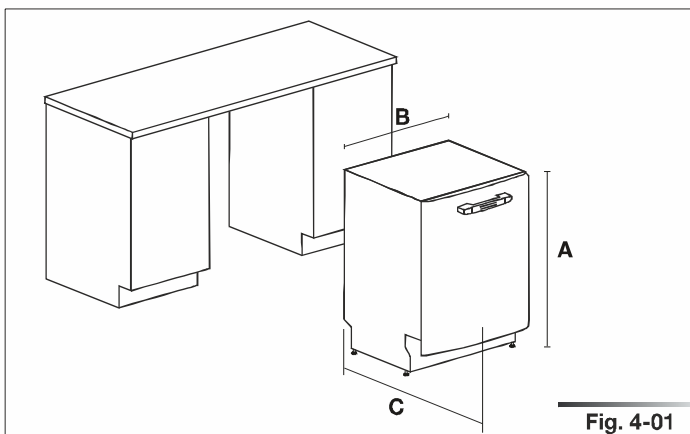

Fig. 4-01
The progressive number of each figure is shown in the bottom right-hand corner of the relative box. An example of a progressive number is "Fig. 4-01", where the first number (4) indicates the section to which the figure belongs, while the second number (01) indicates the progressive number of the figure in section 4 (Fig. 4-01 is the first figure in section 4). The tables are numbered in the same way, bearing in mind that "Tab." is used instead of "Fig." (e.g.: Tab. 4-01 is the first table in section 4). If a table occupies more than one page, a letter is added after the progressive number (e.g.: "Tab. 4-01a", Tab. 4-01b").
## 4 DIMENSIONS OF DISHWASHER (See fig.4-01)